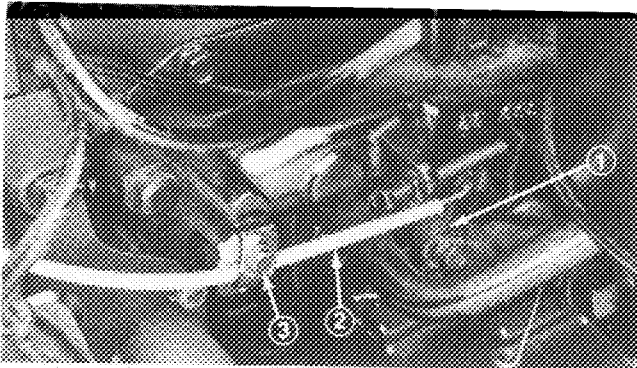

Figure 6
3. Hook cable end into top hole in governor arm (Fig. 6).
4. Loosen cable clamping screw allowing cable installation, but do not tighten (Fig. 6).
5. Pull firmly on throttle cable until governor arm contacts stop and tighten cable clamping screw (Fig. 6).